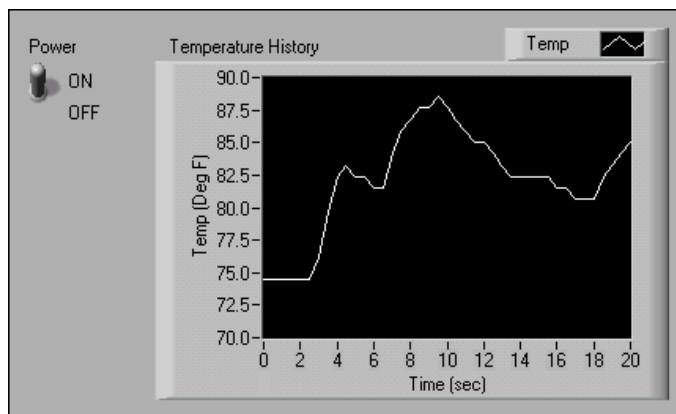

Figure 7.5
1. Open a blank VI and build the front panel shown in Figure 7.5.